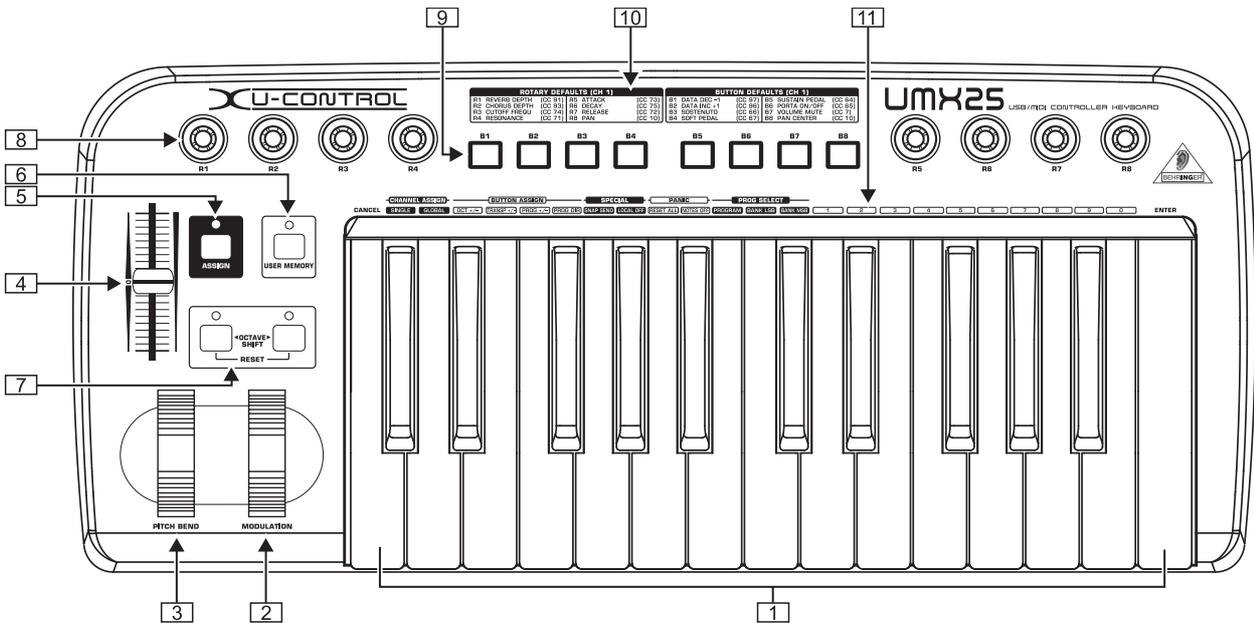

Fig. 3.1: Top view
- ▲ You use the preset controller configuration set in the factory (see Fig. 3.1, [10]). In this case, you only need to make the assignments on the receiving device.